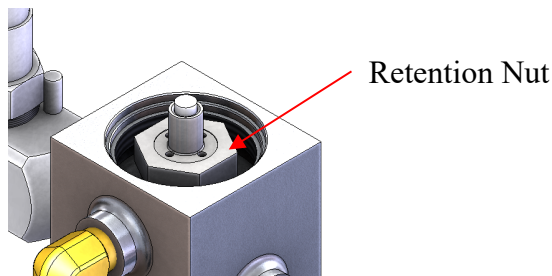

Figure 27: Pilot Retention Nut
- 13. Unscrew and remove the retention nut and retention nut set screw (if present). See Figure 27.